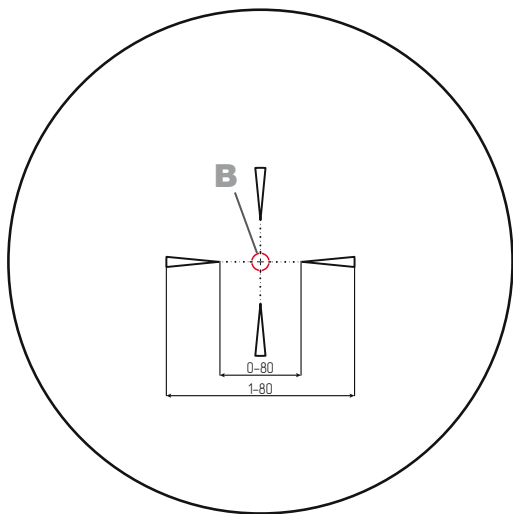

Figure 4
1.4.9.2 “Fast Cross” reticle fields of view with magnifications of 1.5× and 6× are given in Figures 4 and 5.